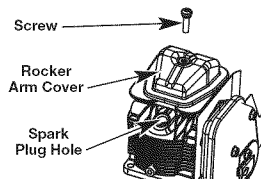

Fig. 21
5. Clean dirt from around the rocker arm cover. Remove the screw holding the rocker arm cover with a large flat blade screwdriver or Torx T-25 bit (Fig. 21). Remove the rocker arm cover and gasket.
- The piston is at the top of its travel. This should be done by looking into the spark plug hole. (Fig. 21)